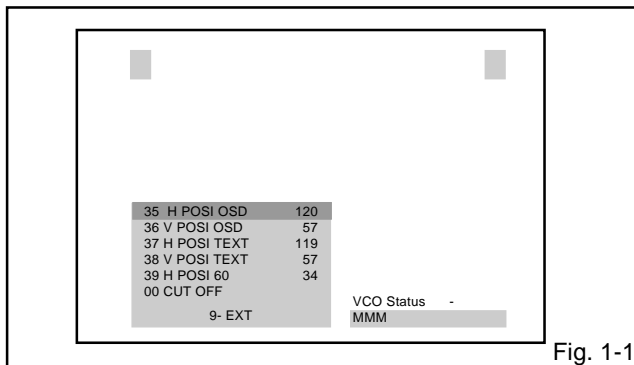

Fig. 1-1
1. In the condition of NO indication on the screen. Press the VOL. DOWN button on the set and the Channel button (9) on the remote control for more than 2 seconds to appear the adjustment mode on the screen as shown in Fig. 1-1.
3. Activate the adjustment mode display of Fig. 1-1 and press the channel button (13) on the remote control to select "VCO COARSE".
3. Activate the adjustment mode display of Fig. 1-1 and press the channel button (15) on the remote control to select "VCO COARSE L1".
4. Activate the adjustment mode display of Fig. 1-1 and press the channel button (01) on the remote control to select "RF AGC".